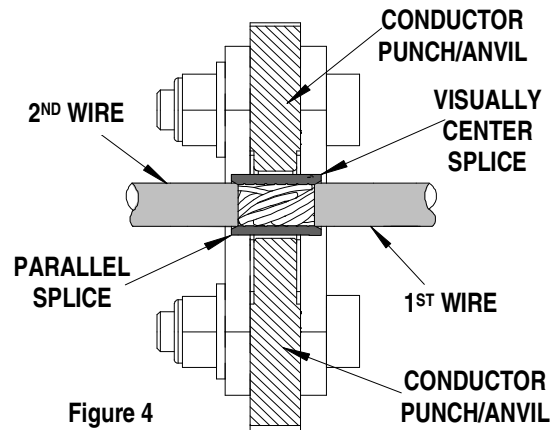

Figure 4
6. When crimping parallel splices, Insert the 1st wire into one end of splice then insert the 2nd wire into the opposite end of the parallel splice. This procedure will crimp both wires at the same time. Make sure the wires are fully seated into the parallel splice. Position the splice and the wires in proper nest with conductor crimp on the conductor barrel of the splice. The splice should be approximately centered inside the tooling nests. See Figure 4. Cycle the tool.